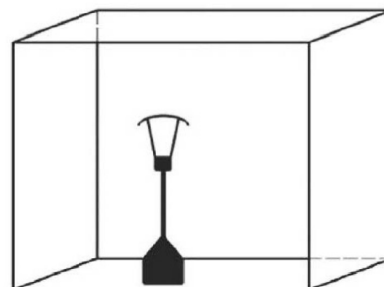

Fig. 1
- An amply ventilated area is one that has a minimum of 25% of the surface area open, see fig.1. (The surface area is the sum of the wall surface.)